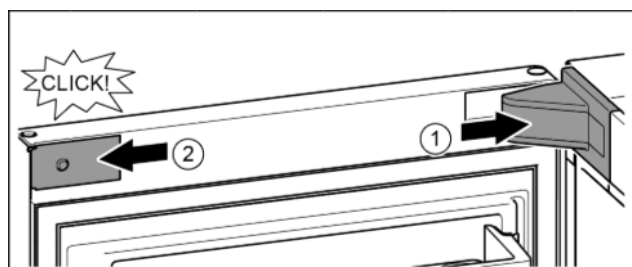

Fig. 17
- ▶ Put the mounting block cover on and click into place. If necessary push apart carefully. Fig. 17 (1)
- ▶ Position the cover plate on the side and click into place. Fig. 17 (2)